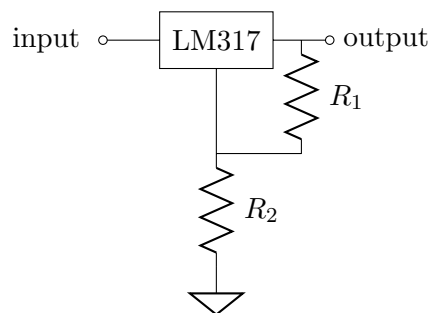

Figure 6: LM317 linear regulator circuit.
- For the circuit of Fig. 6, with sing an input voltage of 9V and $R_1=510\ \Omega$, what's the value of R_2 such that the output voltage is 5 V? What is the efficiency of the regulator in this case? "LM317" refers to the Texas Instruments LM317 voltage regulator IC. You should be able to find its datasheet online.